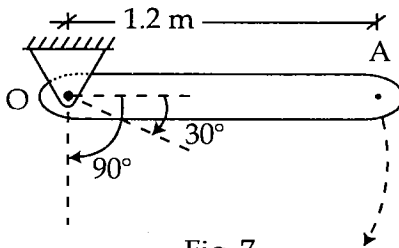

Fig. 7
5. (a) A uniform bar of 1.2 m length and of mass 5 kg is hinged at O. The bar is released from its horizontal position OA. Determine the angular velocity of bar when it is at an angle 30° and 90° with respect to OA. Ref fig.7. 7+7